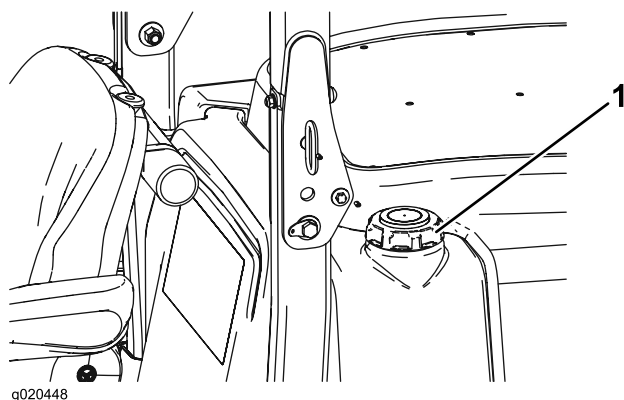

Figure 12
3. Remove cap from the fuel tank (Figure 12).